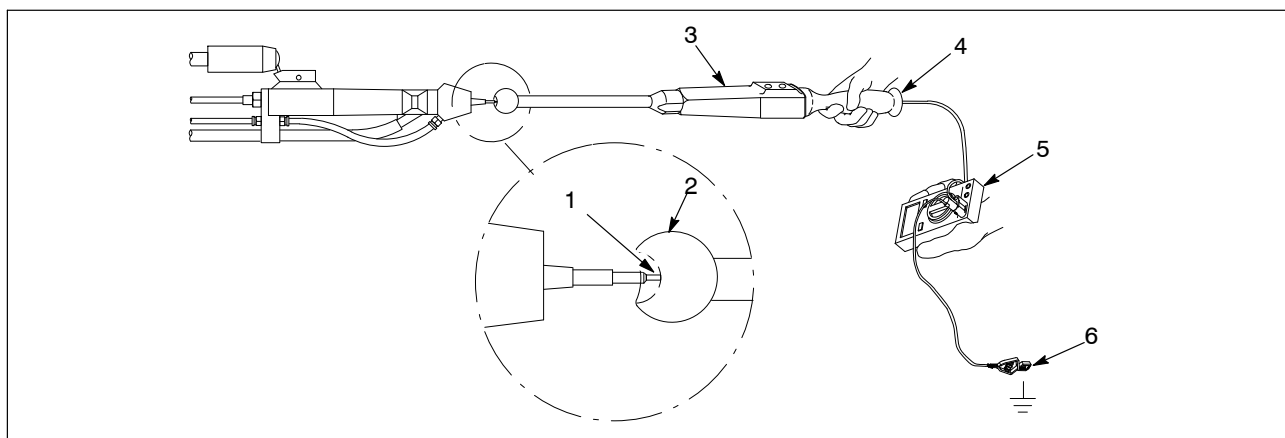

Figure 4 Reading Output Voltage
6. See Figure 4. Thoroughly clean the electrode (1) and the area around the electrode. This is especially important if you are spraying metallic powders.
7. Clean the kV probe (3), cable extension, and ball extension (2) thoroughly. A small amount of powder on these parts can lower the output voltage read by the probe by 20–30 kV.
9. Connect the ground clip (6) to a grounding point at least 20-in. away from the gun electrode. Keep the ground cable and all other grounded objects at least 203 mm (8 in.) away from the electrode.
10. Hold the kV probe by the handle (4) with your bare hand.